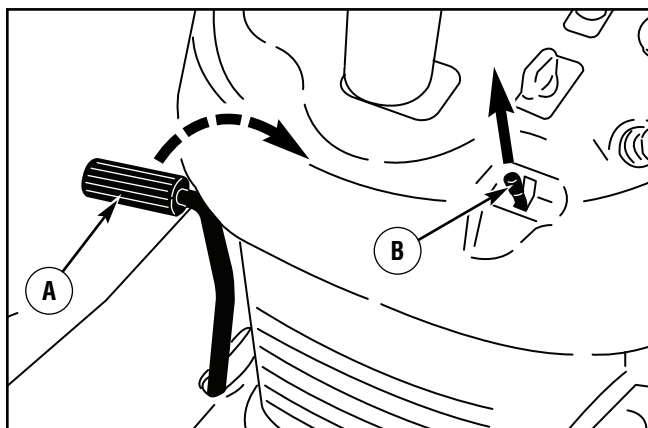

Figure 14: Parking brake
1. The **automatic drive disconnect** must be in the **DRIVE** position (Figure 14).
2. Lift the **parking brake lever** (Figure 14).